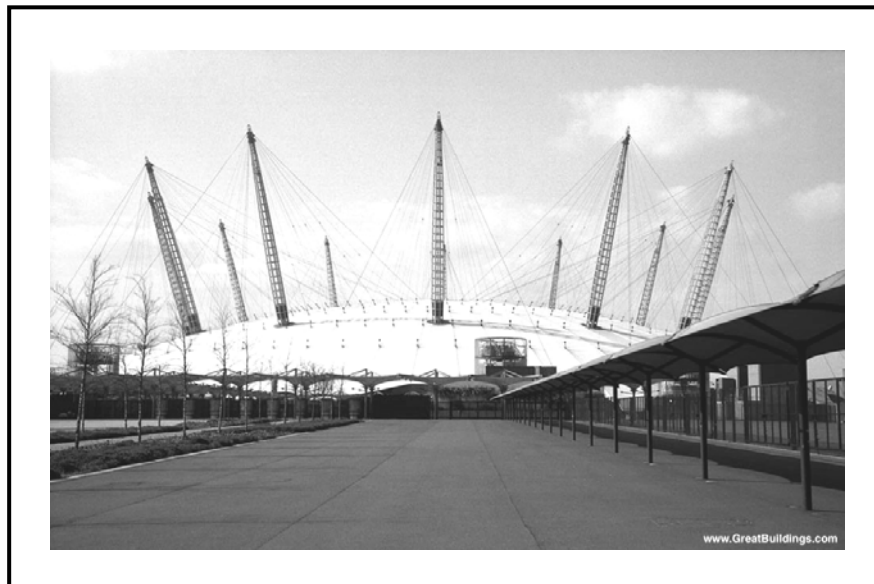

Figure 1.3: Millenium Dome, England.
- ✚ Figure 1.3 shows the dome as simply a series of arches which is set on a circular base. Like the arch, this is predominantly a compression structure.